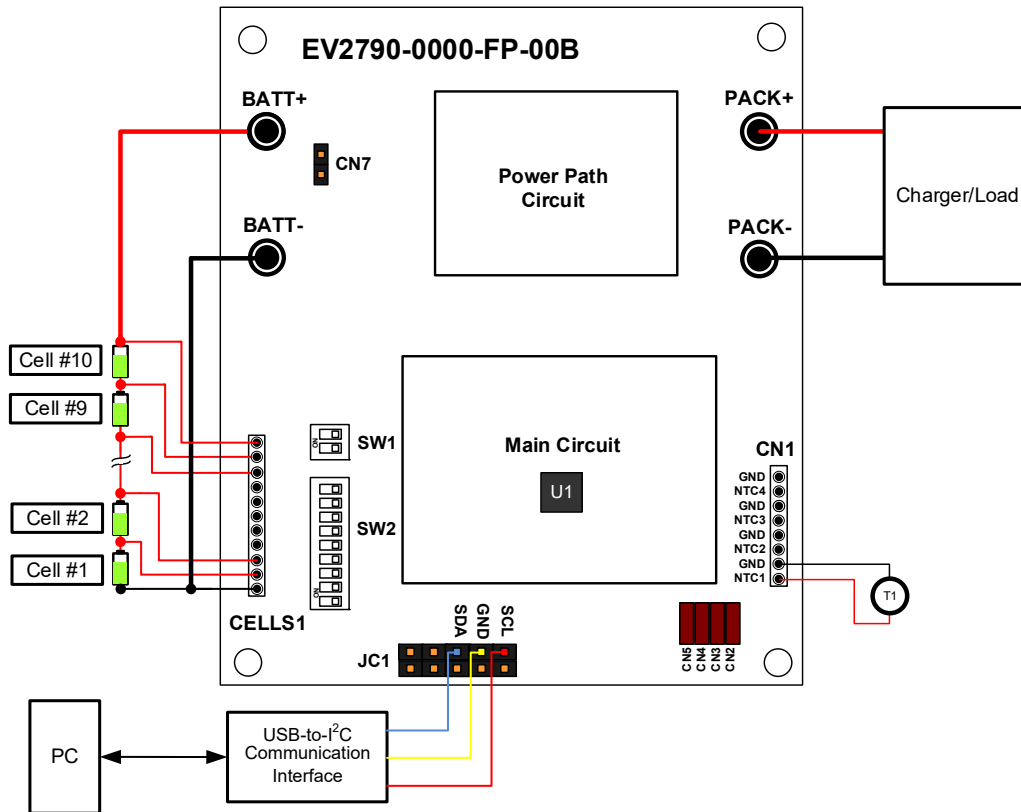

Figure 4: Equipment Set-Up for the MP2790DFP-0000 with a Battery Pack
6. The open-wire detection and cell-balancing functions cannot be tested using the cell simulator shunt. A real battery pack is required to evaluate these features. Figure 4 shows the MP2790DFP-0000 equipment set-up with a battery pack.